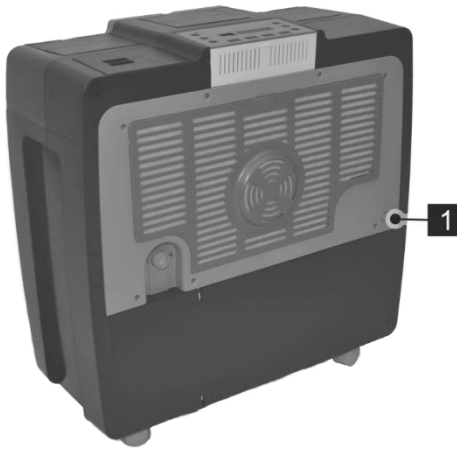

Fig. 4: Connecting the power supply
2. → Connect the power supply unit to the connection socket (Fig. 4/1) on the humidifier.